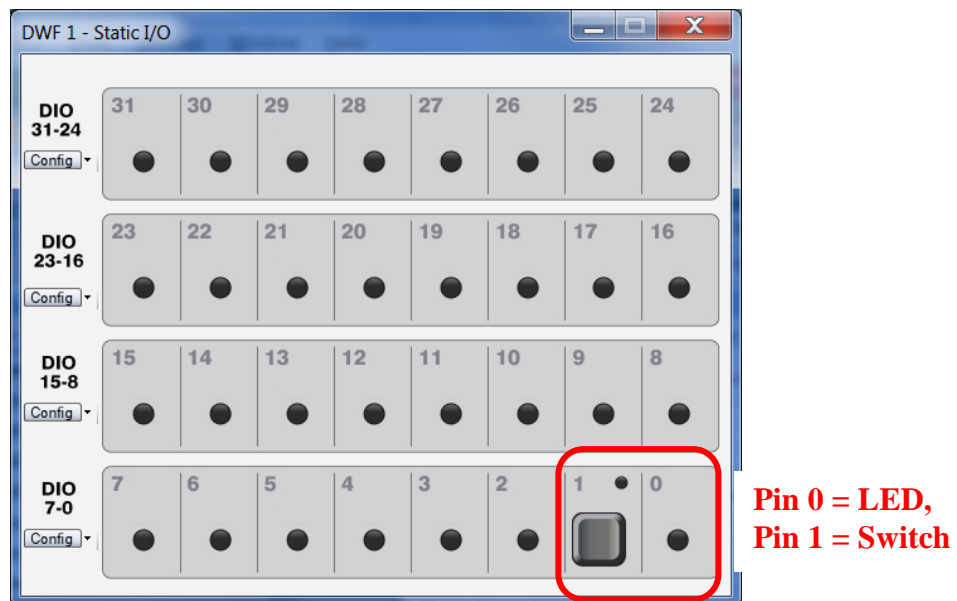

Figure 10. WaveForms Static I/O Instrument
10. By right-clicking on each (see Figure 10), configure Digital I/O pin DIO0 as an LED and DIO1 as a push button. If you wish, you may remove DIO31-24, DIO23-16, and DIO15-8 via the “Config” buttons at the left.